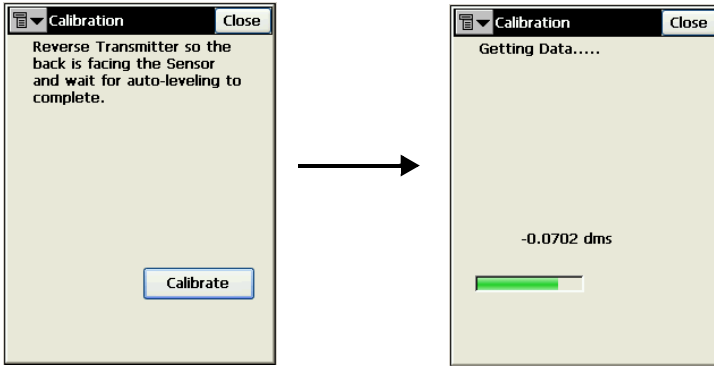

Figure A-16. Turn Transmitter to Back and Collect Data
- Turn the transmitter 180° so the back faces the transmitter. tap **Calibrate** (Figure A-16).